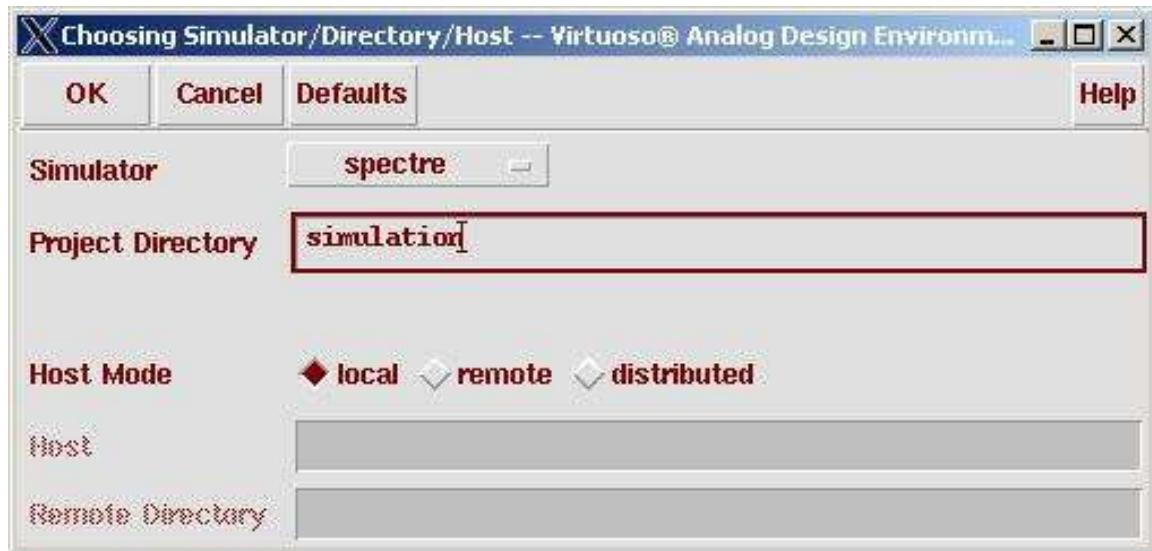

Figure 7.14: Choosing Spectre as the simulator
1. Use the **Setup → Simulator / Directory / host** menu to open a dialog box. From there change the **Simulator** to be **Spectre** (with no "S" on the end). This will force the analog netlister to use Spectre format when it generates the netlist. See Figure 7.14.